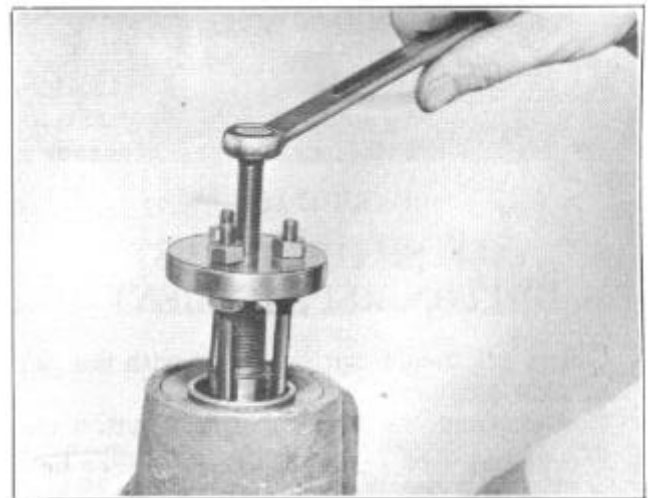

FIGURE 17
3. Remove the three fingers from pinion oil seal remover body J-2647 and insert hook end of fingers under oil seal entering finger along spline groove of pinion. (Space hook arms equally on pinion splines.) Figure 17.